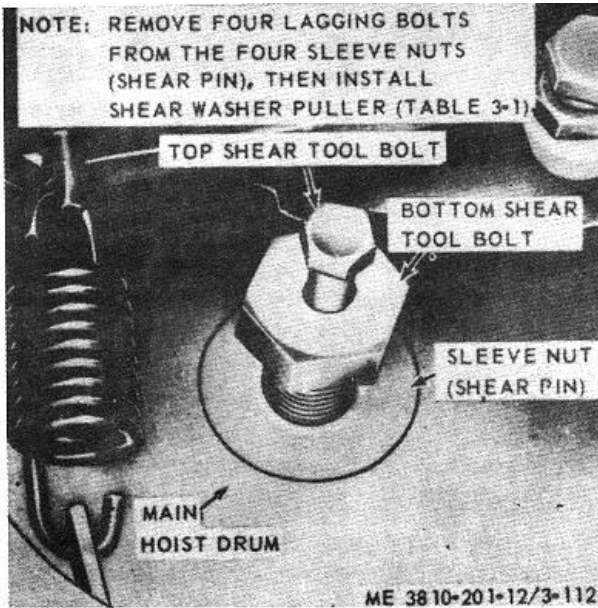

Figure 3-99. Sleeve nut, removal and installation.
- (3) Refer to figure 3-99 and remove sleeve nut (shear washer) by use of special tool (table 3-1).
- (4) Secure lifting device to lagging halves,